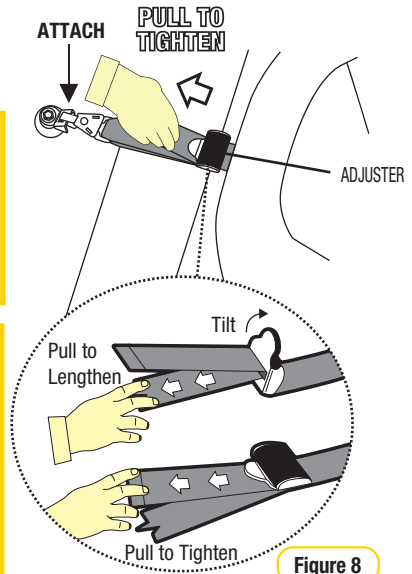

Figure 8
**Step 6:** Pull to tighten to remove all the slack, from the upper anchorage strap. Do not overtighten as this could cause the restraint to lift off the vehicle seat (refer to Figure 8).